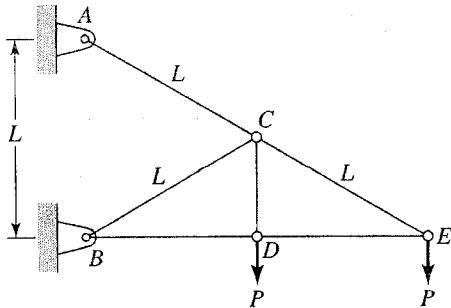

FIGURE P5.25
- 5.25.** Find the vertical deflection of point C in the truss shown in Figure P5.25. All members have the same cross section and are made of the same material.